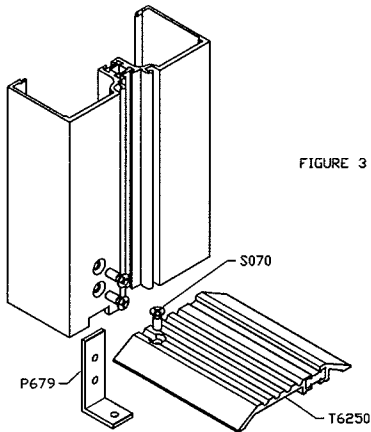

FIGURE 3
2. Attach threshold clips with provided screws. See figure 3 for threshold attachment and figure 4 for vestibule or no-threshold option.